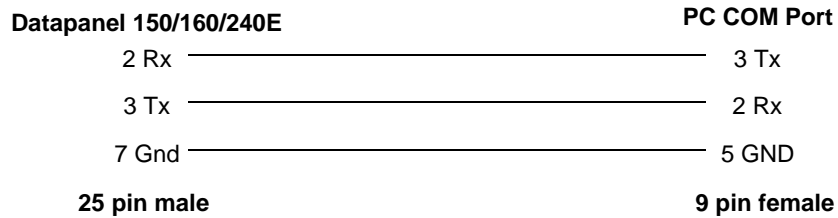

Figure 2-2. Download Cable
- The download cable (IC752BCL000) enables connection to a standard PC and is used when transferring databases or protocols from the configuration software to the Datapanel. This cable is supplied with the configuration software. Pinouts are shown in Figure 2-2.